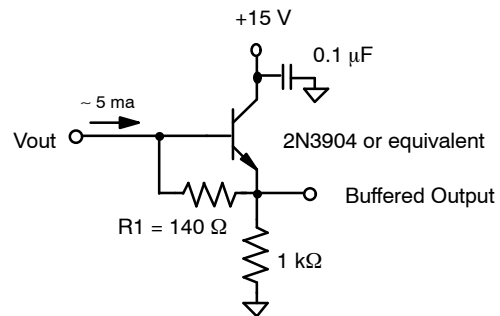

Figure 3. Output Structure Load Diagram
Charge presented to the floating diffusion (FD) is converted into a voltage and current amplified in order to drive off-chip loads. The resulting voltage change seen at the output is linearly related to the amount of charge placed on FD. Once the signal has been sampled by the system electronics, the reset gate (φR) is clocked to remove the signal and FD is reset to the potential applied by VRD. More signal at the floating diffusion reduces the voltage seen at the output pin. In order to activate the output structure, an off-chip load must be added to the Vout pin of the device. See Figure 3.